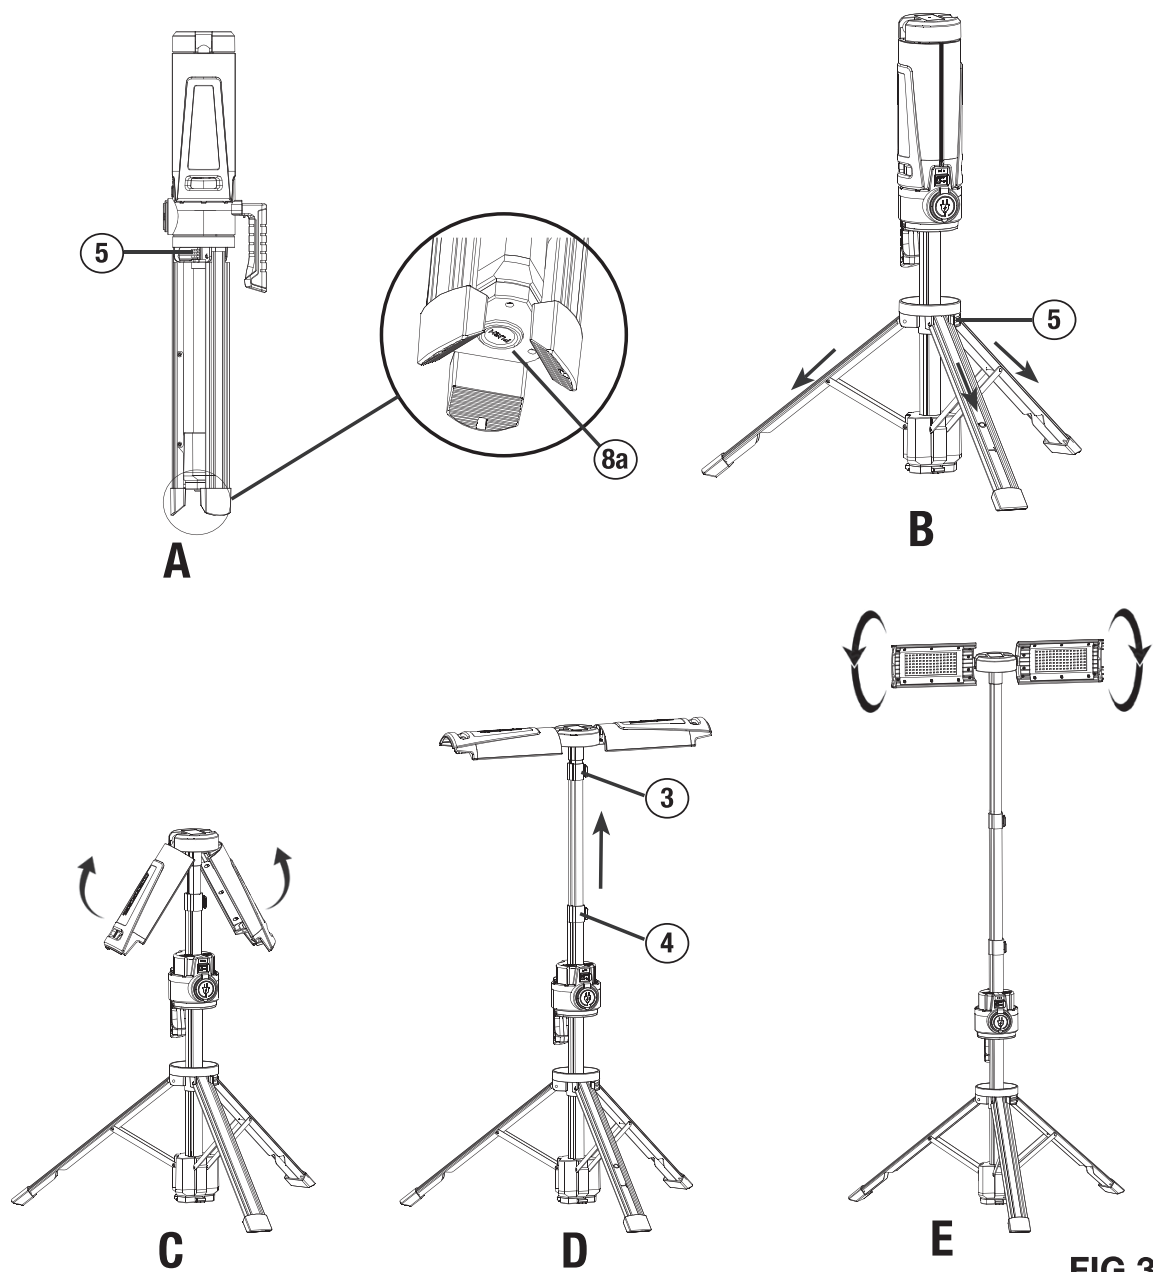

FIG 3
SETTING UP AND BREAKING DOWN THE LIGHT (FIGURE 3).
To set up the light from folded position (A) to working position (E), refer to **Figure 3**.
- ▶ Release the leg locking clip (5).
- ▶ Expand the tripod legs and then lock the leg locking clip. See Figure 3(b).
- ▶ Flip the light panels up as shown in Figure 3(c).
- ▶ Release the tripod lower locking clip (4) and upper locking clip (3) to adjust the tripod height. Lock both clips once the desired height is achieved. See Figure 3(d).
- ▶ Rotate the light panels to direct the beam where required. See Figure 3(e).